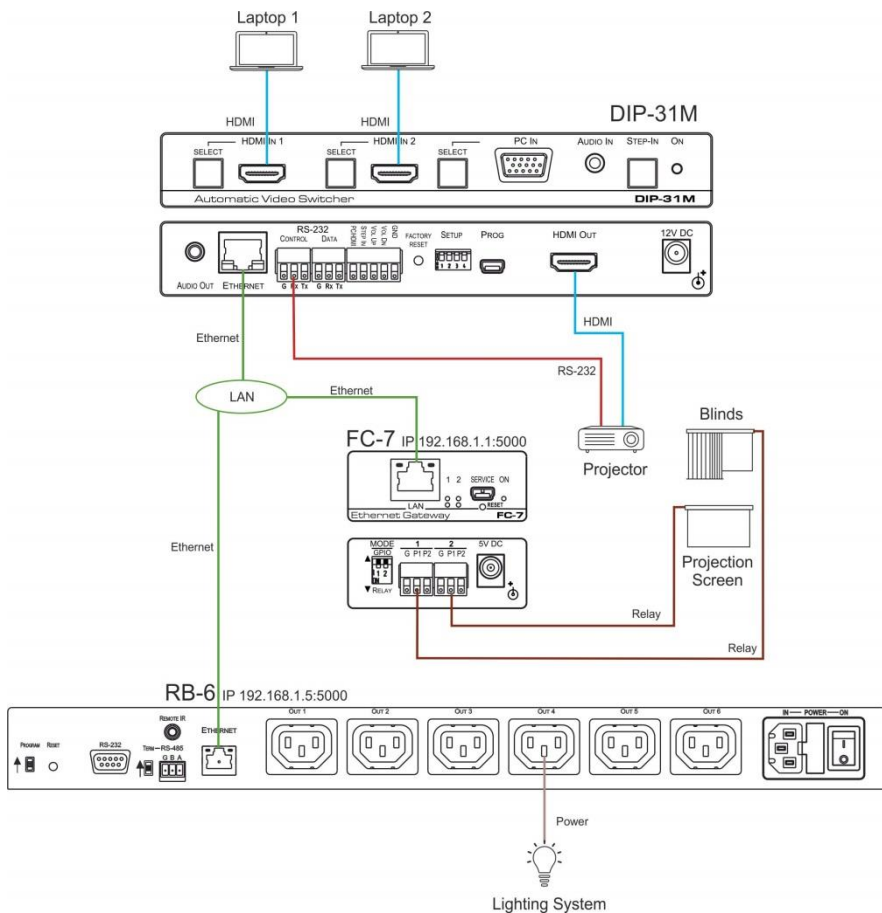

Figure 31: Example Room Control Scenario
Figure 31 illustrates the room setup and connections.
The *Screen Down* and *Close Blinds* commands operate the screen (relay 2) and blinds (relay 1) over the **FC-7** (see Figure 31) using the Protocol 3000 RELAY-STATE command. The data for the commands was manually entered and not chosen from the database.
*Out\_4\_OFF* is the default command name that **RB-6** uses to turn off the room lights. As shown in Figure 31, the lighting system is connected to output 4.